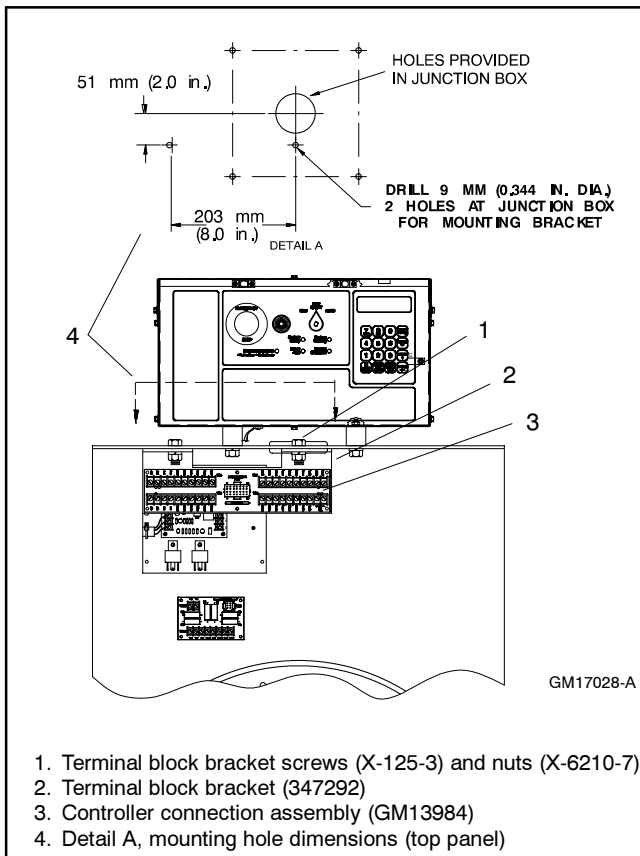

Figure 3 Terminal Block Bracket and Controller Connection Assembly Mounting (350/400 kW)
- 2.2.2 Remove the four screws attaching the controller to the junction box. See Figure 3.
- 2.2.3 Mark the drill hole locations where the terminal block bracket (347292) mounts to the junction box top panel using the dimensions given in Figure 3.
- 2.2.6 Place the terminal block bracket (347292) on the underside of the junction box top panel with the bracket mounting holes visible from the rear of the junction box and mount using two screws (X-125-3) and nuts (X-6210-7). See Figure 3.